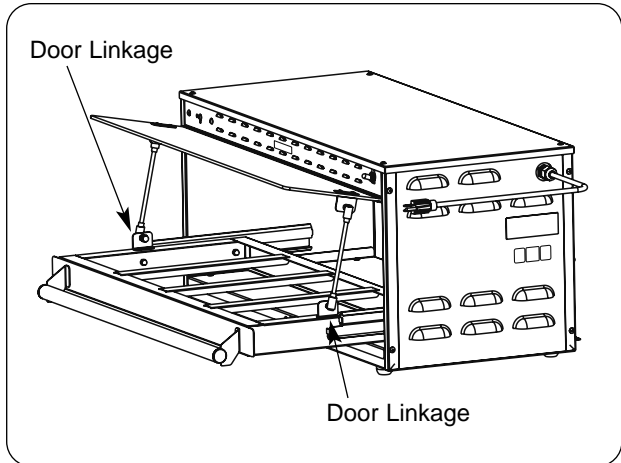

Figure 6. Disconnecting Drawer from Door
2. While supporting door, disconnect door linkages from drawer by lifting up outer sleeve of linkage and gently pulling away from connection. (See Figure 6.)